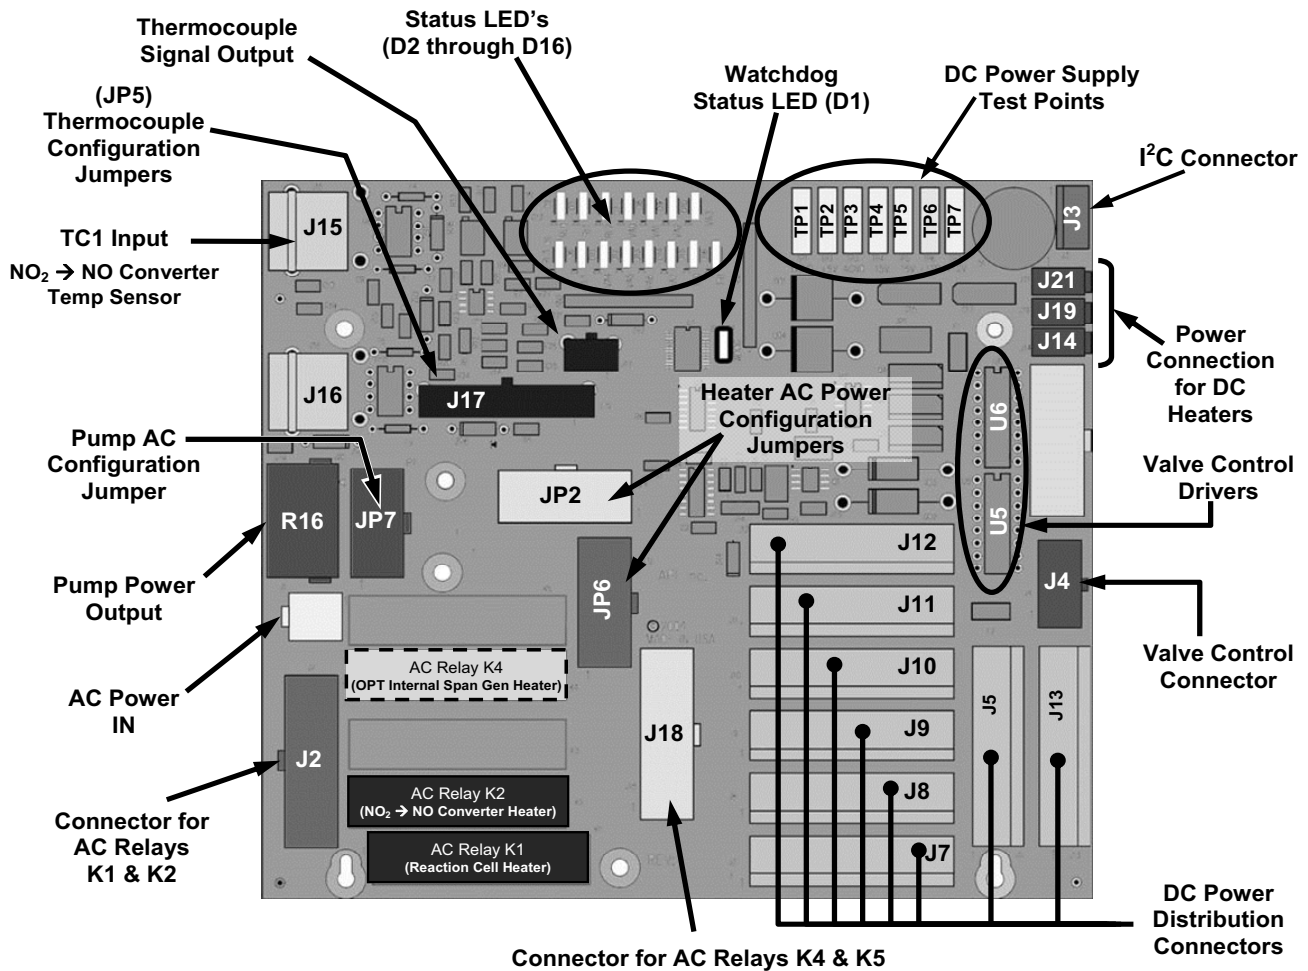

Figure 13-15: Relay PCA Layout (P/N 045230100)
- TC2 (J16) is currently not used (see Figure 13-15 for location of J15 and J16).